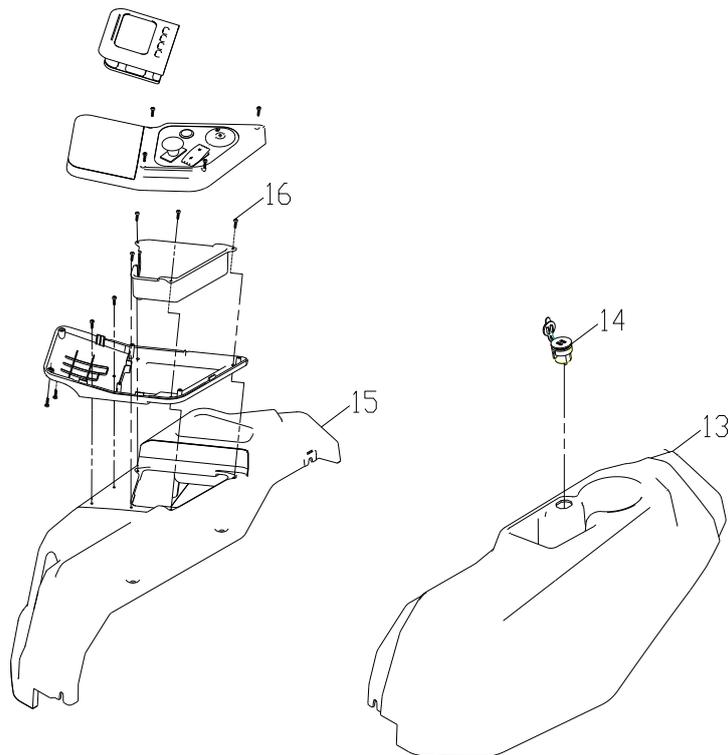

Fig. 4
1. As shown in Fig. 4, use a T15 screwdriver to remove the bolt (16) counterclockwise and pull out all connectors as shown in Fig. 2. The entire switch panel is now separated from the right enclosure (15).